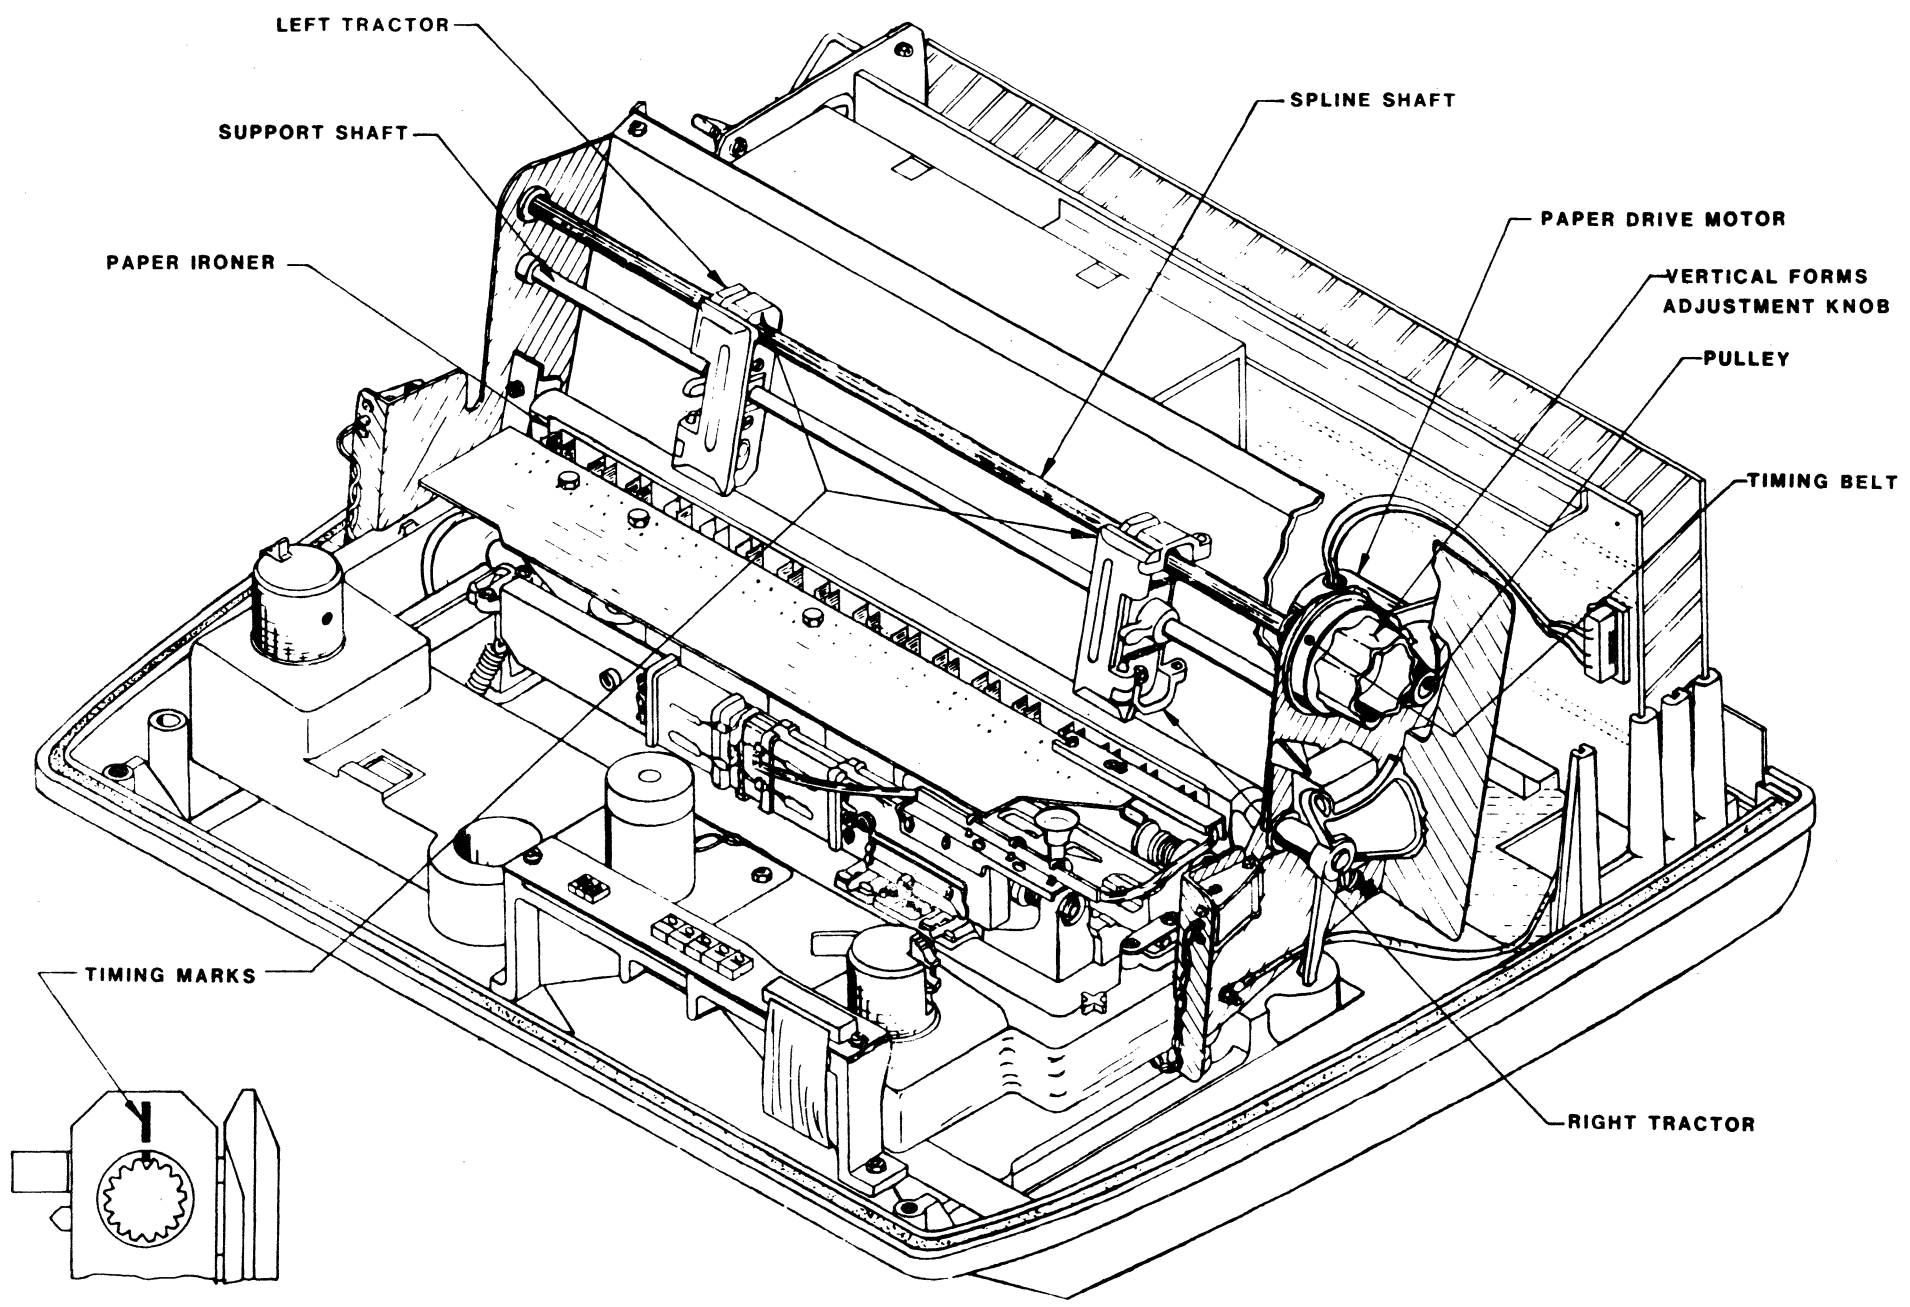

Figure 3-14. The Paper Feed Mechanism
The paper feed mechanism (**Figure 3-14**) includes the following components:
5. Open the tractor covers and rotate the tractor belts so that the timing marks (**Figure 3-14**) are directly upwards on both tractors.